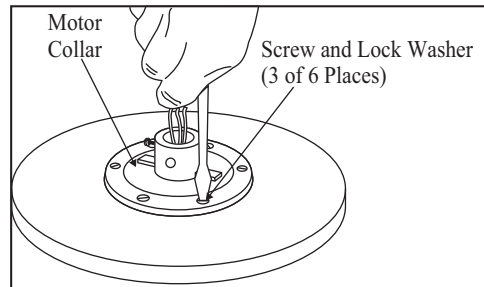

Figure 8
3. Remove three of the six screws and lock washers (every other one) from the collar of top motor. (Figure 8)